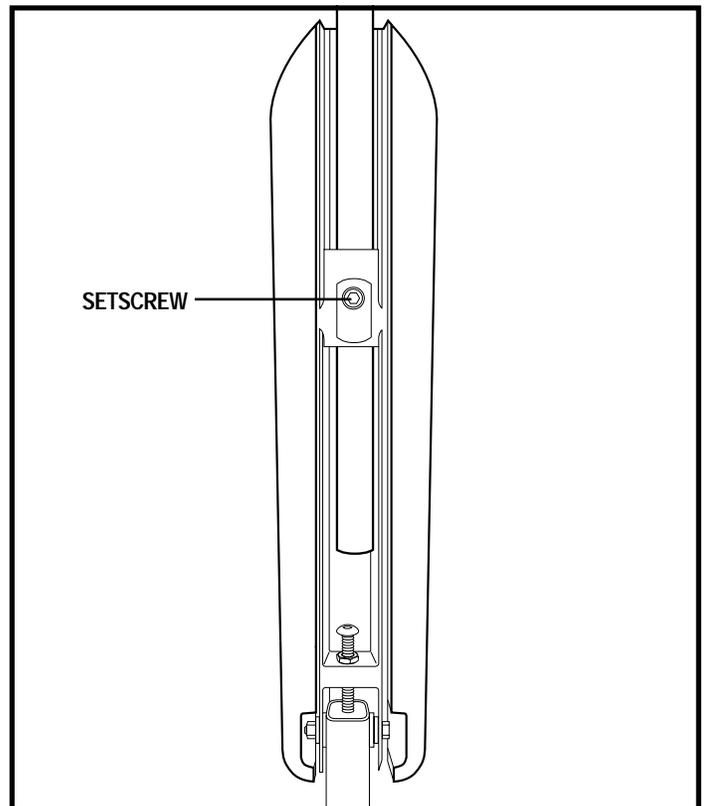
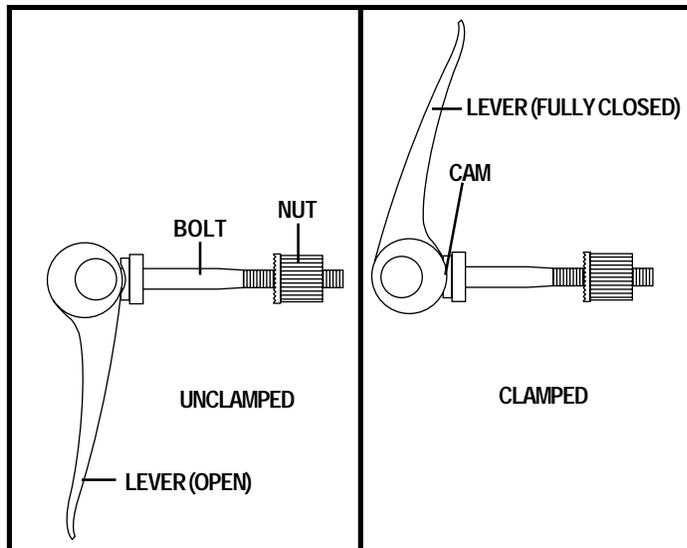

Figure 16. Controller Position - Underside of Armrest
Figure 18. Quick Release Fastener Operation
**NOTE:** For contour seats, loosen the setscrew on the underside of both armrests, transfer the controller, and tighten the setscrews. See figure 16.
**Quick Release Fasteners:** The foot platform is attached to the power base with two quick release fasteners. See figure 18. Each quick release fastener consists of a bolt, a lever, and a nut. See figure 16. The lever has a cam on the end that allows it to clamp into place. The quick release fastener has two states: clamped and unclamped. When the lever is open, the quick release fastener is unclamped. When the lever is closed, the quick release fastener is clamped.